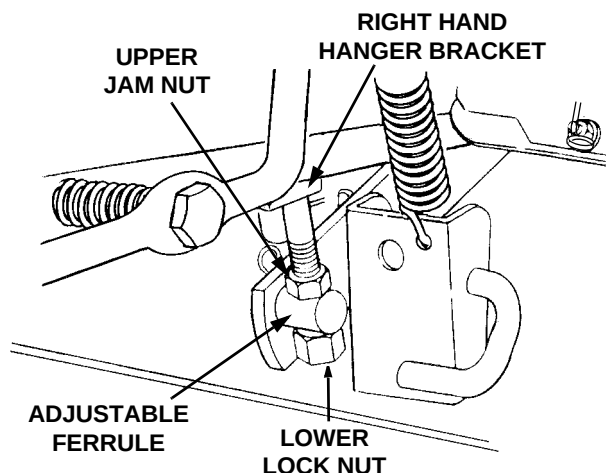

Figure 63
7. Side-to-side leveling is obtained utilizing the adjustment ferrule and right hand hanger bracket (Refer to Figure 63).
- Loosen the upper jam nut on the hanger bracket and turn away from the adjustment ferrule. Turn the lower lock nut upward (tighten) on the threads of the hanger bracket to raise the right side of the mower deck. Turn the lock nut down (loosen) on the threads to lower the right side of the mower deck (See Figure 63).